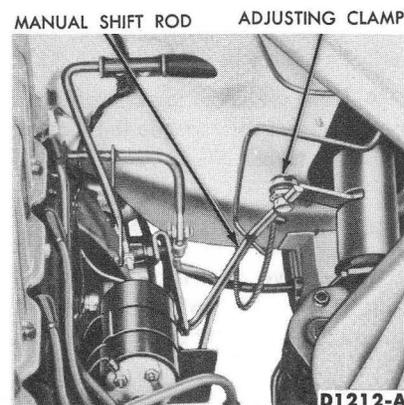

FIG. 4—Manual Linkage
1. With the engine stopped, loosen the clamp at the shift lever so that the shift rod is free to slide in the clamp (Fig. 4).